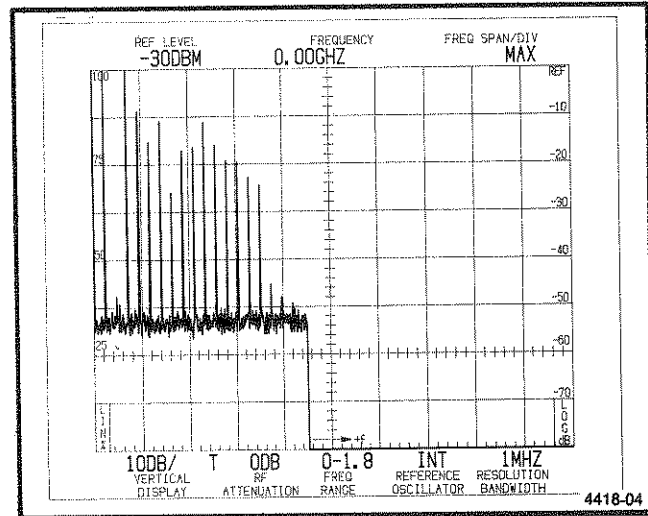

Figure 5-2. Typical display of calibration markers in MAX SPAN position.
c. Apply the CAL OUT signal to the RF INPUT by connecting a 50  $\Omega$  coaxial cable between the CAL OUT connector and the RF INPUT. Note the comb of 100 MHz markers at the left side of the display (see Figure 5-2).